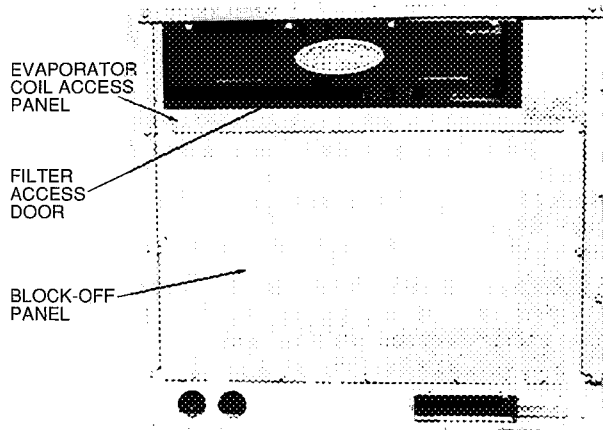

Fig. 17 — Access Panel Location
2. Remove evaporator coil access panel (see Fig. 17). Save panel and screws.
4. The block-off panel should be removed from the evaporator coil access panel and discarded. Save screws. See Fig. 17.